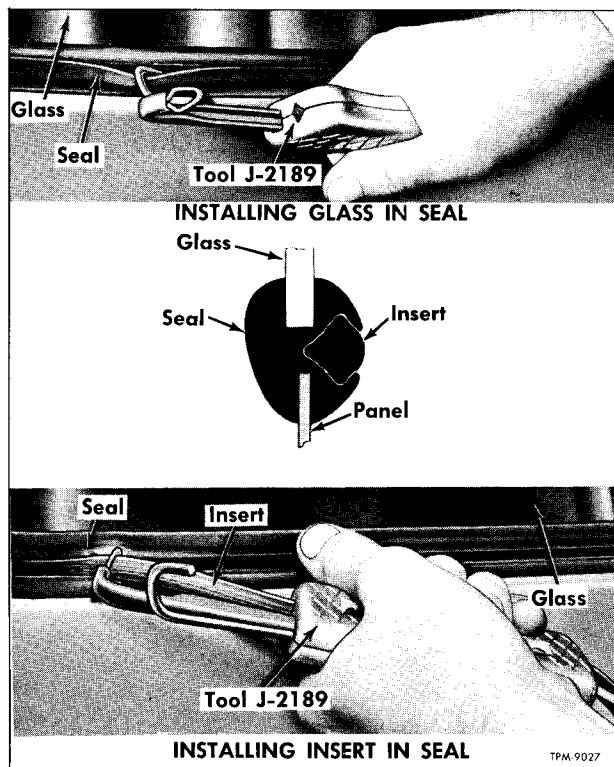
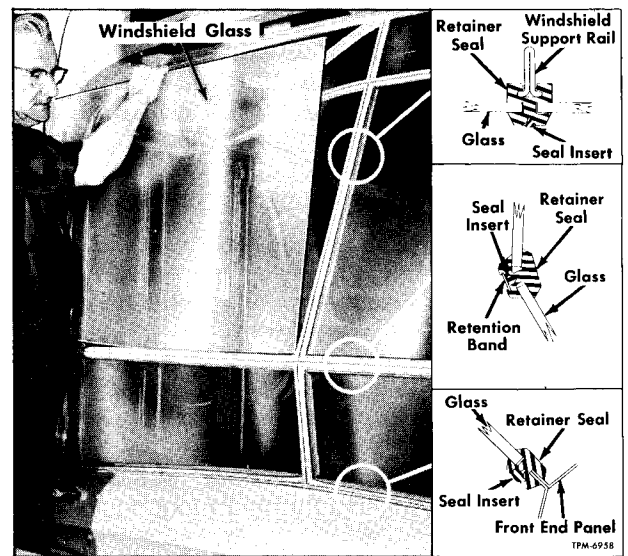

Figure 3—Insert-Retained Glass
Figure 4—Installing Windshield Glass
All window glass except side window sash is retained in body openings by insert-type rubber-like retainer. Retainer seal and seal insert are shown typically in figures 3 and 4.
Although possible to install retainer and seal insert without use of special tools, seal and insert installer tool (J-2189) (fig. 3) is recommended to facilitate installation.
4. Position new glass into groove of retainer seal. Figure 4 shows a section of windshield glass being installed. Use pin end of installer tool (J-2189) to assist locating glass in seal groove as shown in upper view of figure 3.
5. Thread end of rubber insert through handle and eye of installer tool. Refer to lower view of figure 3. At point opposite joint in retainer seal, push tool eye and end of installer into seal groove. Feed into groove in retainer seal. Use a hitching